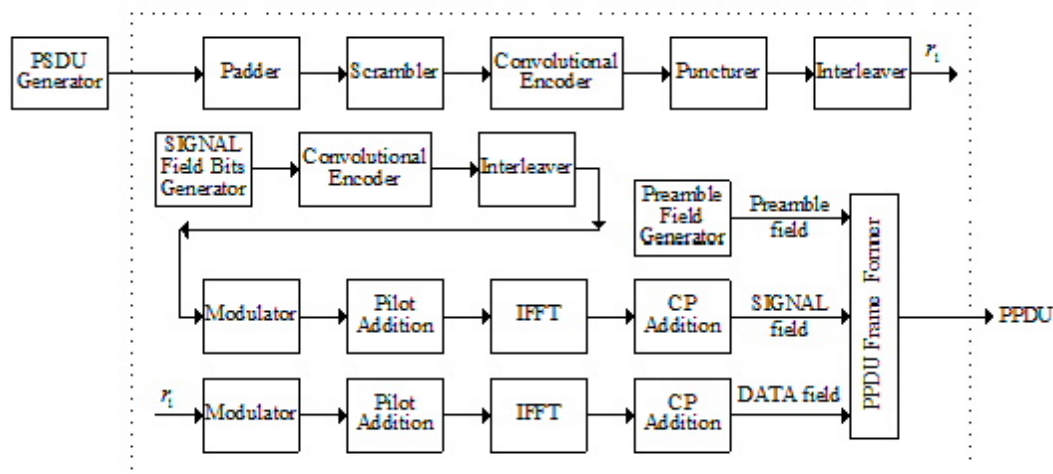

Fig.1 Block diagram of the IEEE 802.11a baseband transmitter
2. Fig.1 shows a block diagram of the IEEE 802.11a baseband transmitter. One sample overlap occurs between preamble and SIGNAL field and between SIGNAL field and DATA field. The number of OFDM symbols during DATA field is determined by the three parameters, Modulation, Coding, and Length.. For some details, please refer to the PAD11A model.